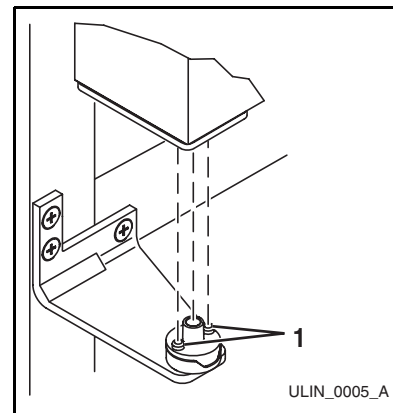
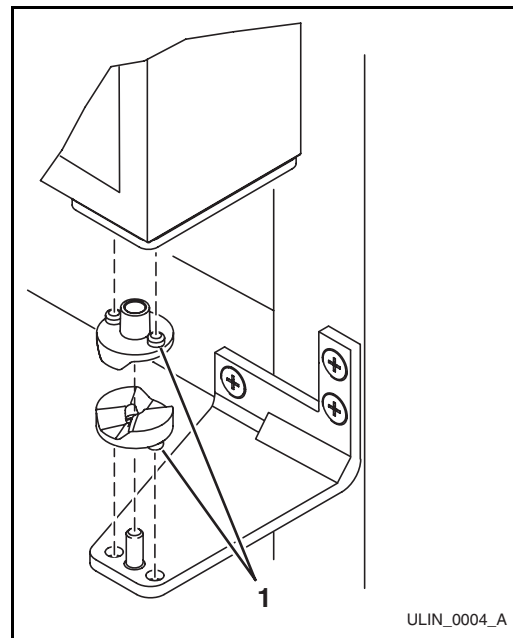

Figure 22
Figure 23
4. Install the removed top hinge mount on opposite side **BOTTOM** (**Figure 22**).
5. Remove the two door closer inserts (**Figure 23, 1**) from the existing bottom hinge and install as shown on the new bottom hinge (**Figure 22, 1**).
9. Holding door upright with top of door tilted forward, place hole of door pivot plate on bottom hinge screw pin/closer inserts (**Figure 22, 1**).